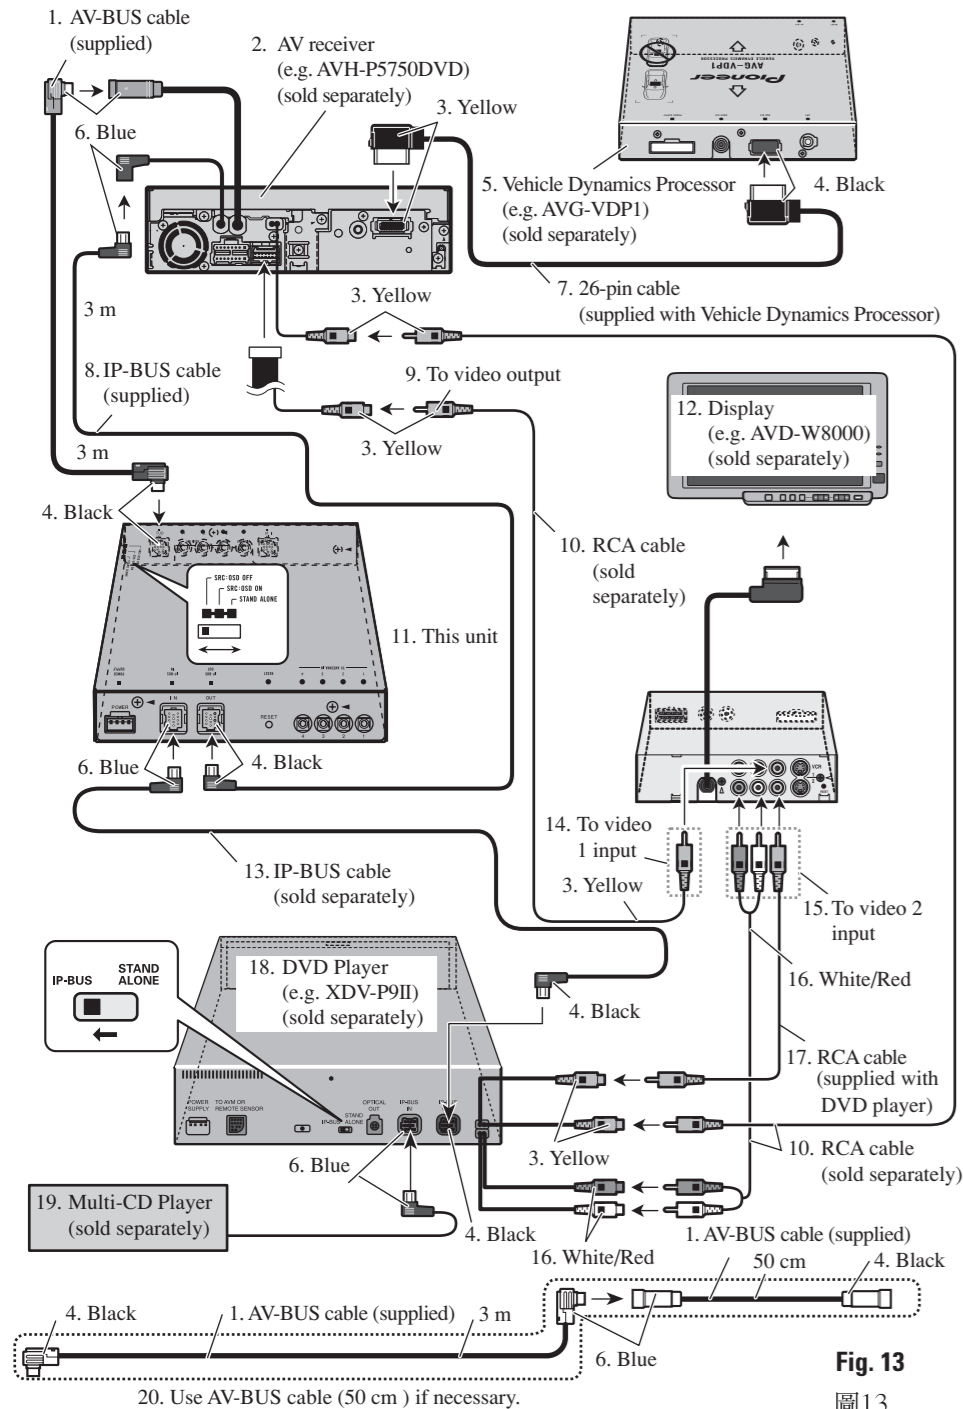

Fig. 13
■ **When using this unit as "SRC : OSD OFF" mode (Fig. 13)**